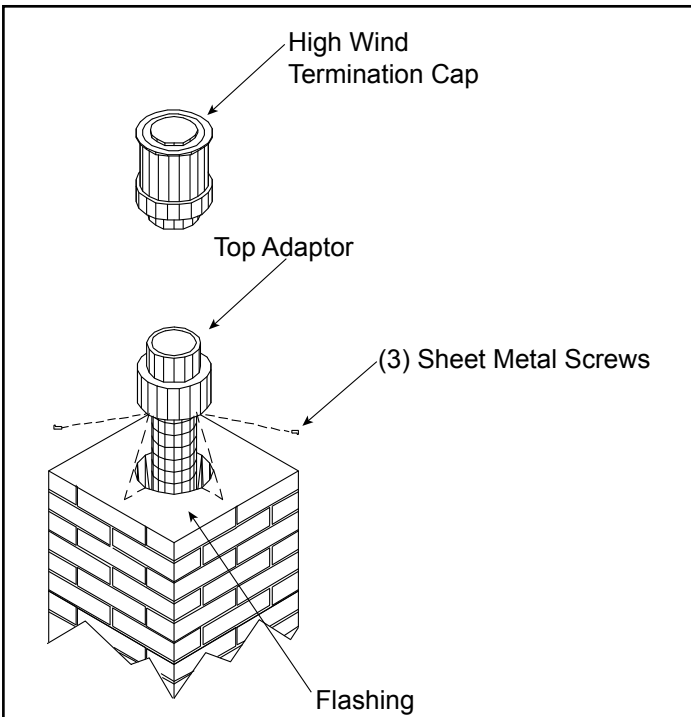

Figure 4.20
8. Secure the top adapter to the flashing. Use three sheet metal screws through the side of the top adapter into the flange on the flashing. See Figure 4.20. Twist lock the high wind termination cap on to the top adapter.